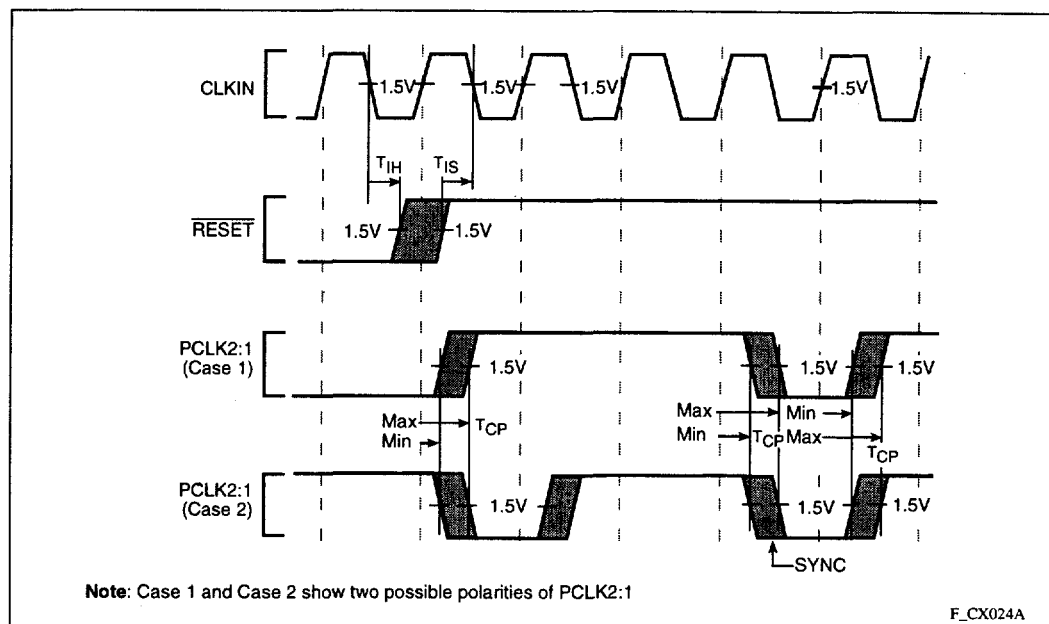

Figure 22. Clock Synchronization in the 2-x Clock Mode
- In 2-x clock mode, \overline{RESET} is an asynchronous input which has no required setup and hold time for proper operation. However, to guarantee the device exits reset synchronized to a particular clock edge, the \overline{RESET} pin must meet setup and hold times to the falling edge of the CLKIN. (See Figure 22.)